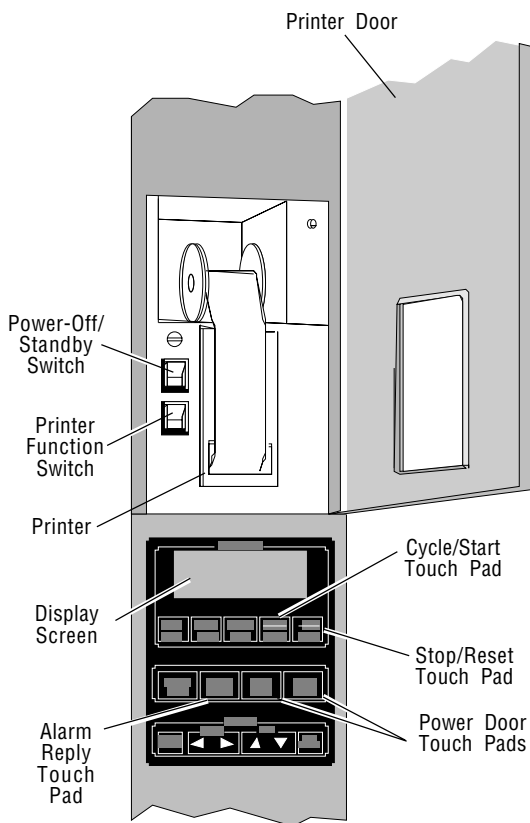

Figure 5-1. Load-side Controls and Printer
9. Set **POWER-OFF/STANDBY** switch, located behind printer door, to **POWER** (see Figure 5-1). Verify that model name temporarily appears on the display screen: